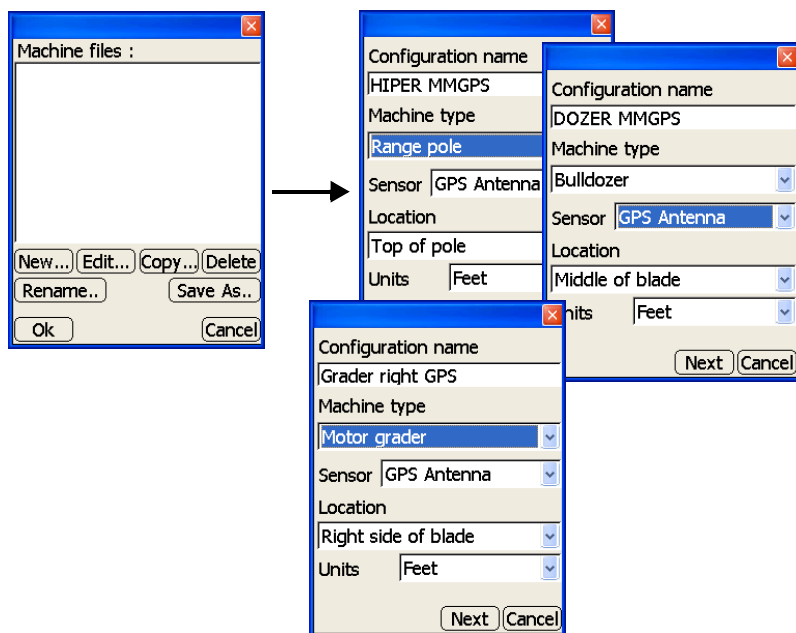

Figure 2-47. Create or Edit an Equipment Configuration
2. On the **Machine files** dialog box, press **New** to create (or **Edit** to change) an equipment configuration (Figure 2-47 on page 2-32).
3. On the **Configuration name** dialog box, set the following equipment parameters and press **Next** (Figure 2-47 on page 2-32):